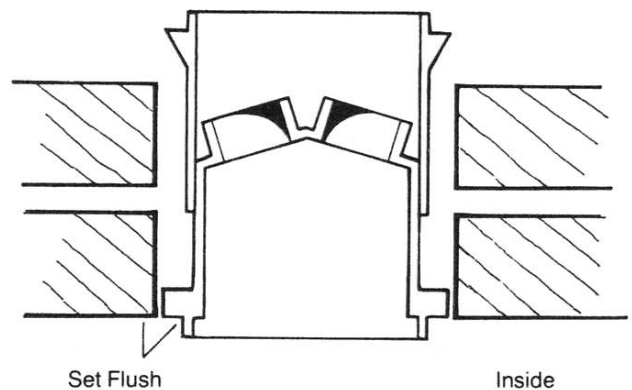

Fig. 4
9. Try the casing assembly in the wall and ensure that the shoulder on the inner case can be set flush with the internal wall surface (see Fig. 4).
12. Position the shoulder of the inner case flush with the interior wall surface (see Fig. 4). This will